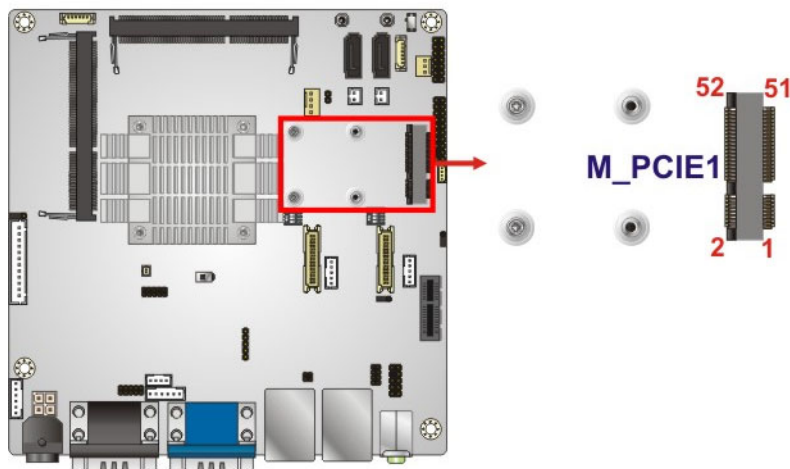

Figure 3-20: PCIe Mini Card Slot Location
- CN Location:** See **Figure 3-20**